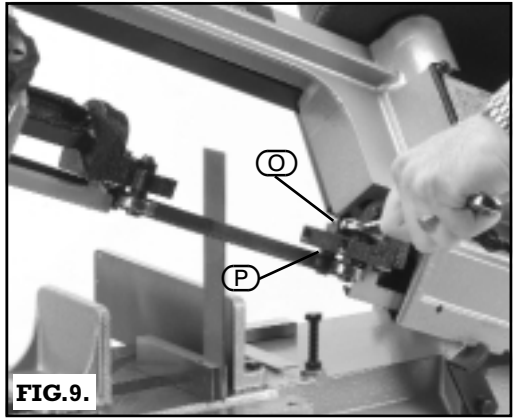
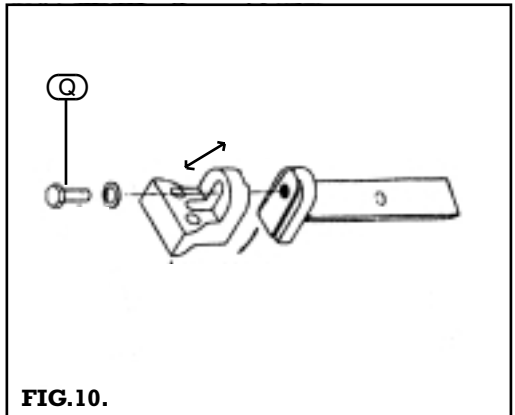

FIG. 9.
FIG. 10.
It is impossible to get satisfactory work from the saw if the blade guides are not properly adjusted. The gap between the blade and the guide should be .00.1" clearance, anything larger will allow the blade to flex. Both upper and lower guides are adjusted in the same way and both the inner guides are fixed. The outer guides are in eccentric bushes. Loosen nut (O), adjust the bearing on the front nut (P). When correctly set retighten the rear nut (O). To set the blade square with the bed, use an engineers square (Draper Stock No.34065) as shown in (Fig.9). To alter the blade loosen bolt (Q) (Fig.10) which when loose allows movement in the guides. When set resecure the bolt. To allow for different size pieces of material the guides are adjustable. Loosening knob (R) (Fig. 11) allows the upper guide to slide. When set retighten. Should the lower guide require adjustment, loosen screw (S) to move the lower guide into position, when set secure.